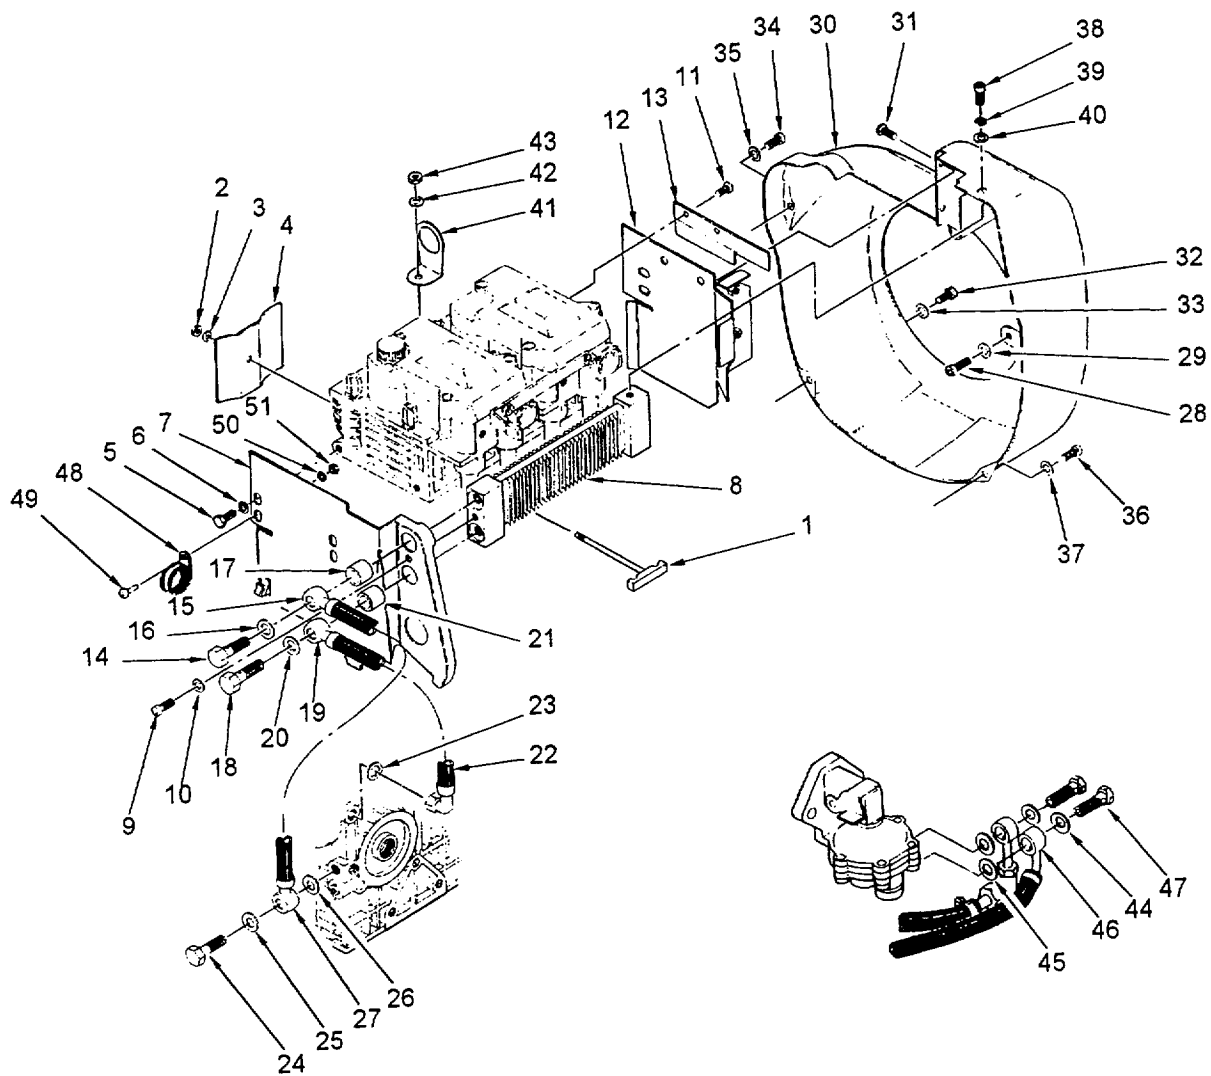

Figure 6-50. Shroud, Gates and Oil Cooler Installation
6.4.27 Install Gates, Shroud and Oil Cooler. (Refer to figure 6-50.)